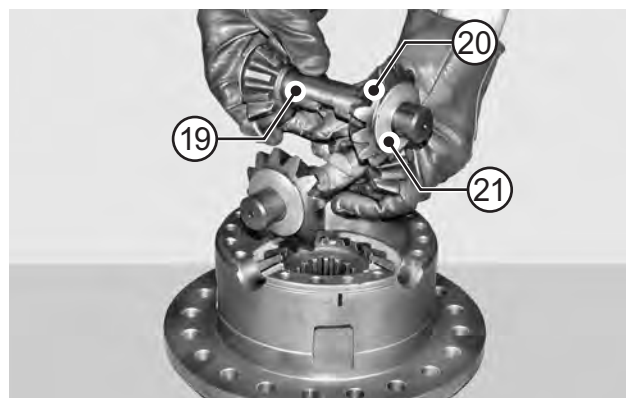

FIGURE 12: Remove shafts (19), complete with planetary gears (20) and spherical shoulder washers (21).
FIGURE 12: Fit increased shim (12), clutch pack (7), and shims (6) onto the crown wheel (8). Fit the upper half box (5) and make sure that the match marks line up. Complete the assembling operation and install the differential unit following the procedures described in the first part of the manual under section DIFFERENTIAL UNIT p. 47.